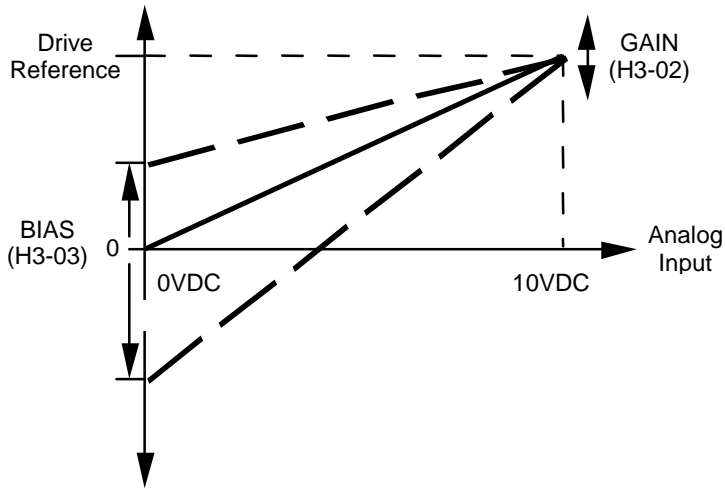

Figure 5. Gain & Bias Adjustments – Shown for Channel 1 (TC1)
- (3) See Figure 5.
- (4) **Warning:** If the application requires that reverse motor rotation be prohibited, parameter b1-04 must be set to “1” so the motor will stop whenever the polarity of the input signal becomes negative.